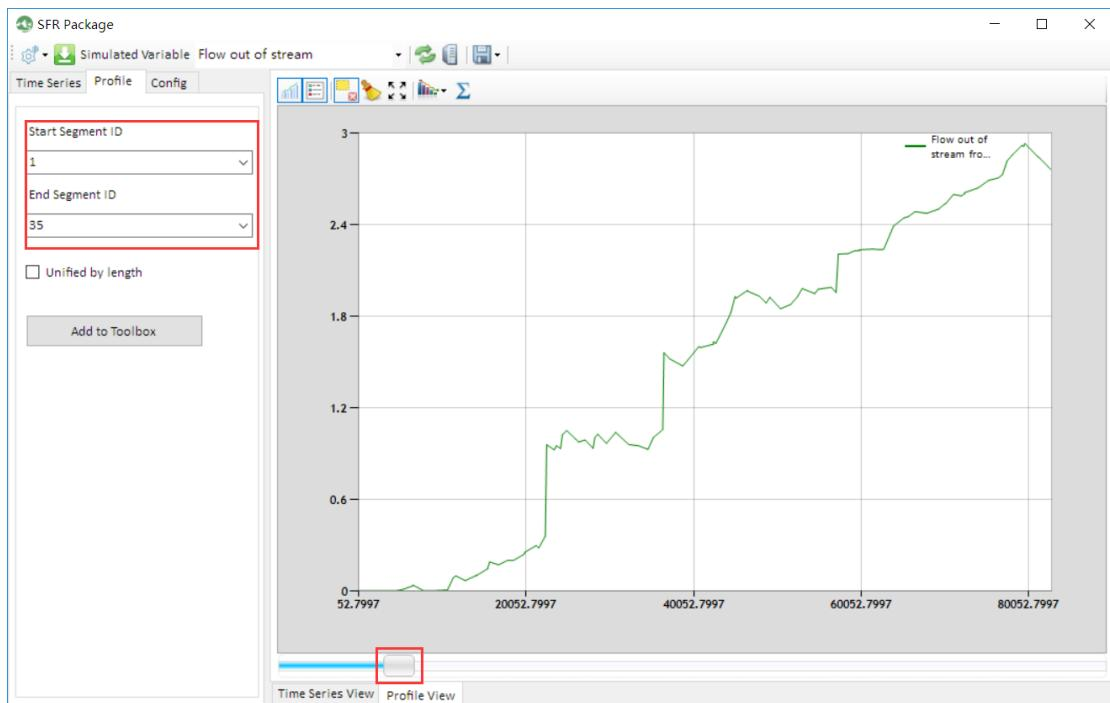

Figure 8-6. Spatial variation of streamflow along the main stream of the Miho River.
- 2) Change to Profile Panel, set the Start Segment ID and the End Segment ID as 1 and 35 respectively. Then spatial variation of streamflow along the main stream of the Miho River is presented in the figure (Figure 8-6).